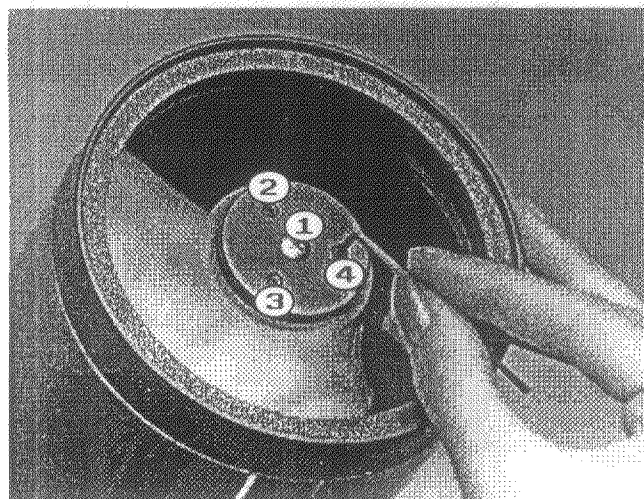

Fig. 3: Collimation of the Optical System
1. Locate the three collimation set screws near center portion of the front corrector plate lens (see Fig. 3).
2. Note that the only optical alignment adjustment of the Model 2045 that is ever necessary or possible is the tilt-angle adjustment of the secondary mirror. Adjustment of this tilt-angle is achieved by turning the 3 set screws (2), (3) and/or (4) in Fig. 3, located at the edge of the secondary mirror housing.
DO NOT AT ANY TIME TURN OR ADJUST THE CENTER SCREW (SEE (1), FIG. 3), LOCATED ON THE OUTER SURFACE OF THE SECONDARY MIRROR HOUSING. THIS SCREW HOLDS THE SECONDARY MIRROR IN PLACE IN ITS HOUSING!